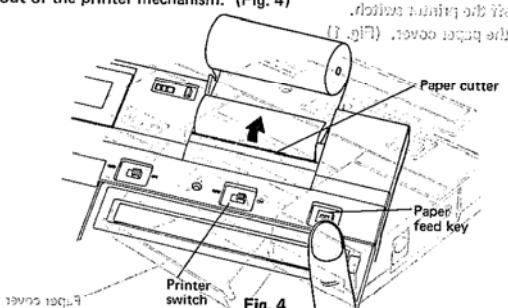

Fig. 4
- (4) Turn on the printer switch and press the paper feed key until the paper comes out of the printer mechanism. (Fig. 4)